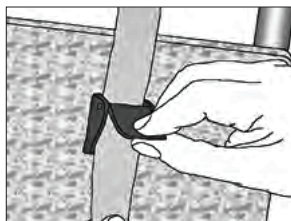

Figure 8
2. Thread upper straps through upper cam buckles and lower straps through lower cam buckles (Fig. 8).